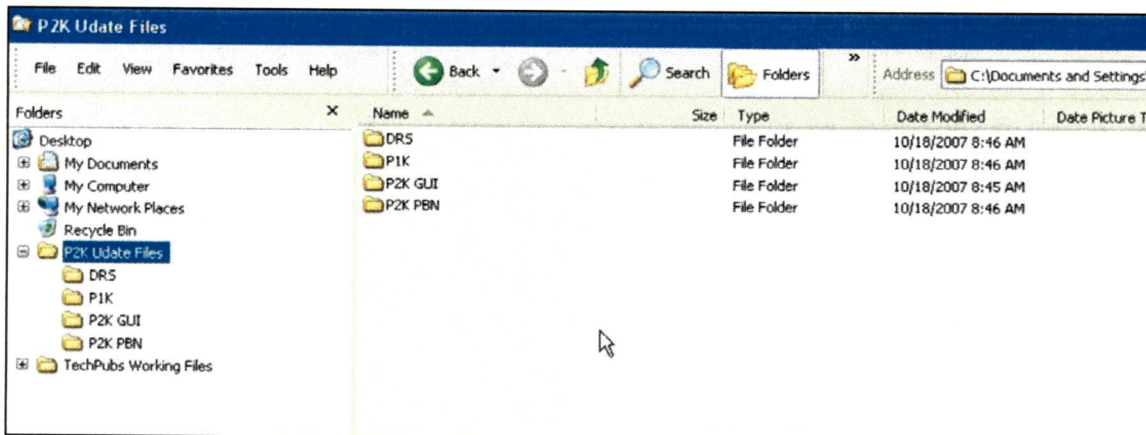

Figure 1. Update File Folder Structure
- ☐ 2. Make four subfolders, Figure 1, within the newly created folder and name them: P2K GUI, P2K PBN, P1K and DRS.